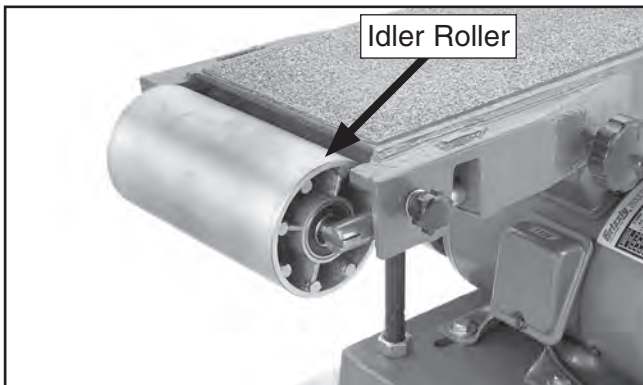

Figure 25. Idler roller installed.
- Slide the flat ends of the idler roller into the slots on the roller adjustment bars (see **Figure 25**).